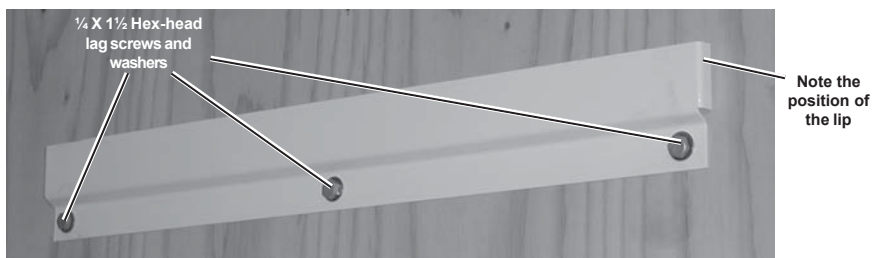

Figure 2-2a
4. Mount the bracket to the wall using the three ¼ X 1½ hex-head lag screws with the lip of the bracket facing the wall as shown in Figure 2-2a. If mounting to other than a wood wall or surface, use appropriate screws and anchors as required.